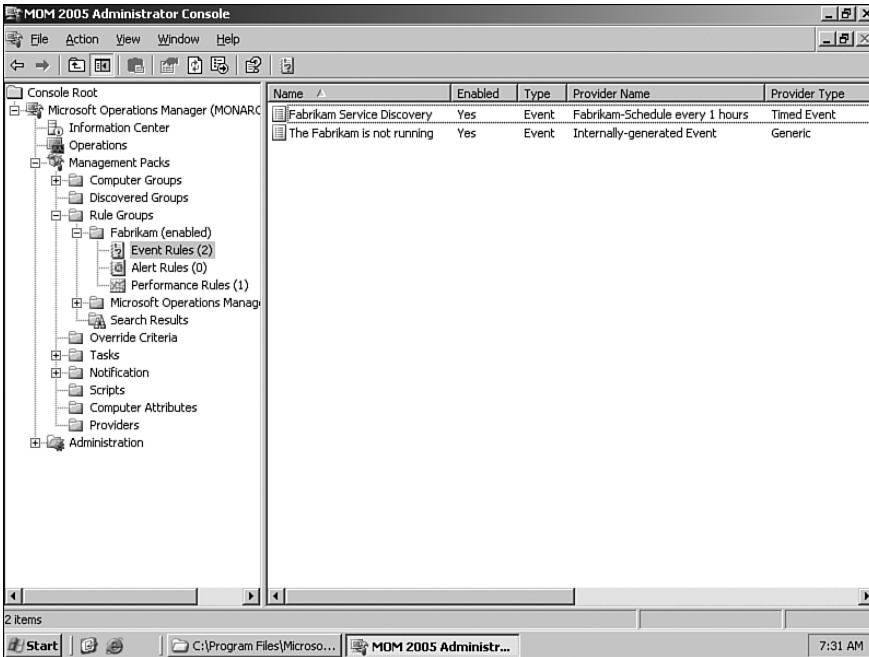

FIGURE 20.7 Fabrikam rule group added by the wizard.
7. Import the akm file into MOM 2005, using the procedure discussed in Chapter 13, “Administering Management Packs.” Figure 20.7 shows the changes in the Administrator console after importing the akm. You will now see the addition of the Fabrikam rule group, which includes two event rules and one performance rule.